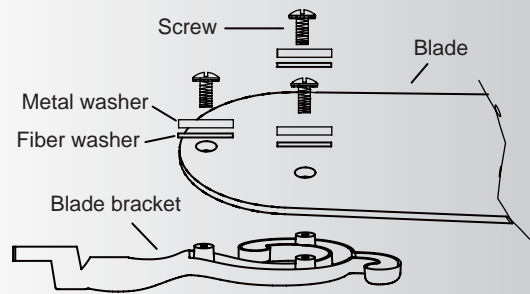

Fig. 17
Step 1 Attach the blade to the blade bracket using the screws, washers and fiber washers as shown in Figure 17. Start screw into bracket. Repeat for the two remaining screws.